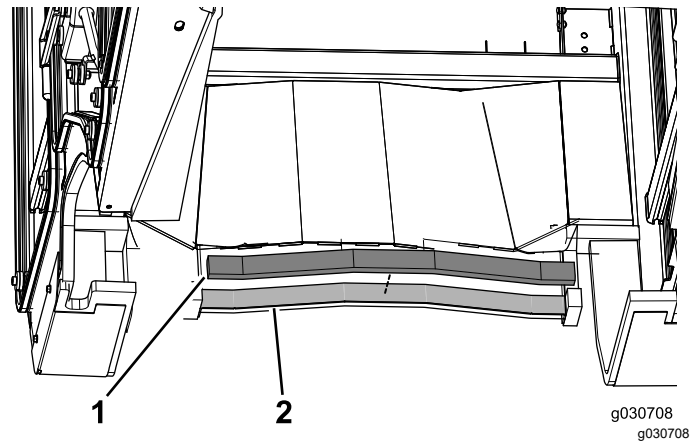

Figure 17
- Apply the rear foam seal to the back of the cab unit (Figure 17).